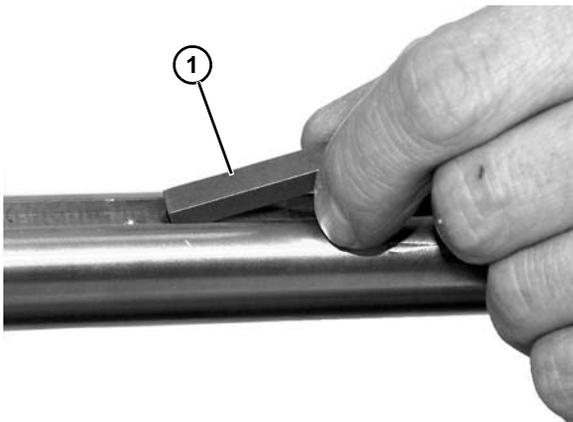

Figure 37
3. Remove output shaft key (**Figure 37, item 1**).